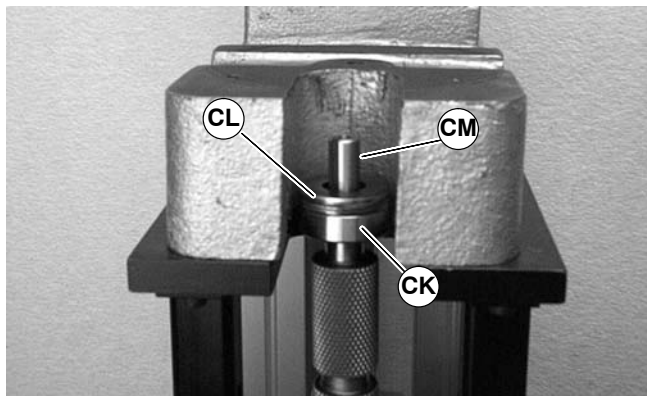

Figure 52
2. Place two (2) 5/8 flat washers, or equivalent (CL of Figure 52), over the pulley shaft (CM) and against bearing (CK) (part # 802-124).